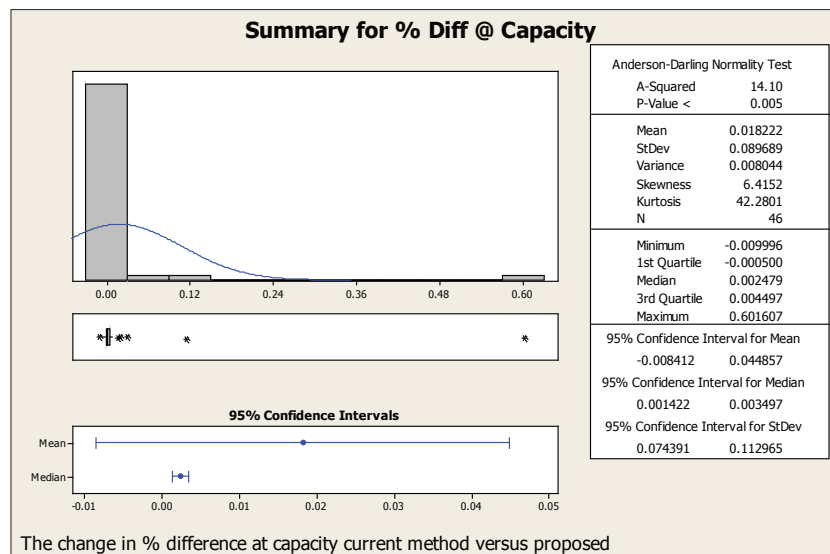

Figure 5. Shows method (A) ignoring the trailing or ending zero results in a difference of full scale output for the majority of instruments calibrated.
The graph below (Figure 5) shows method (A) ignoring the trailing or ending zero results in a difference of full scale output for the majority of instruments calibrated.